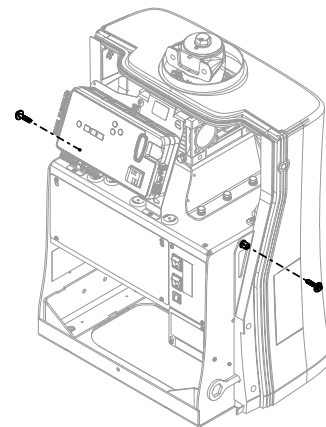

Figure 25. Install M6 Hex Bolts to Latch Posts
3. Install M6 hex bolts at the front cover latch posts (Figure 25).